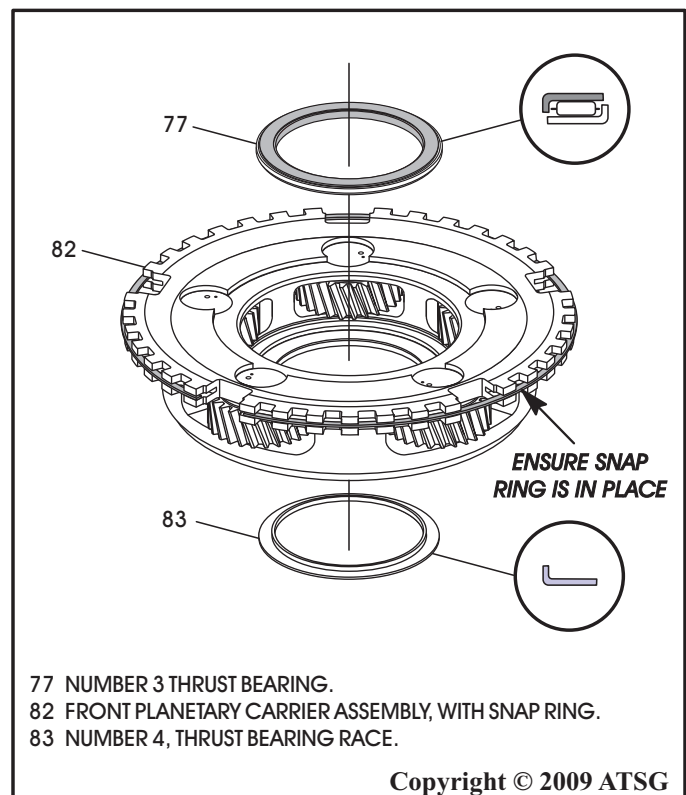

Figure 103
19. Ensure that the snap ring is engaged into the groove of the front planetary carrier, as shown in Figure 103.
20. Install number 4 thrust bearing race onto back side of front planetary carrier and retain with a small amount of Trans-Jel® (See Figure 103).
21. Install the number 3 thrust bearing into front side of front planetary carrier and retain with a small amount of Trans-Jel® (See Figure 103).